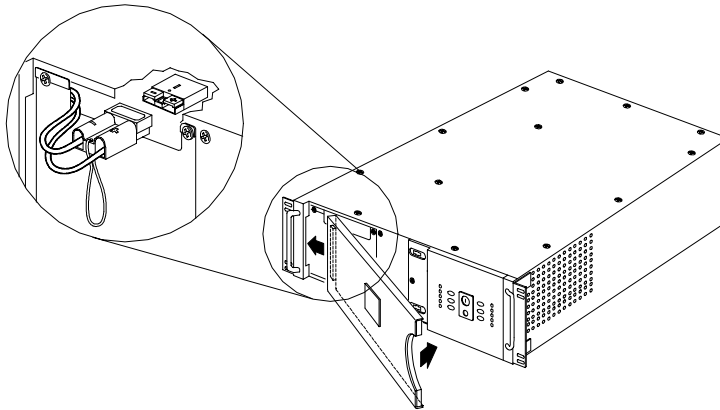

Figure 4-68. Connecting the UPS Battery
2. Connect the battery inside the UPS (see Figure 4-68) as follows: